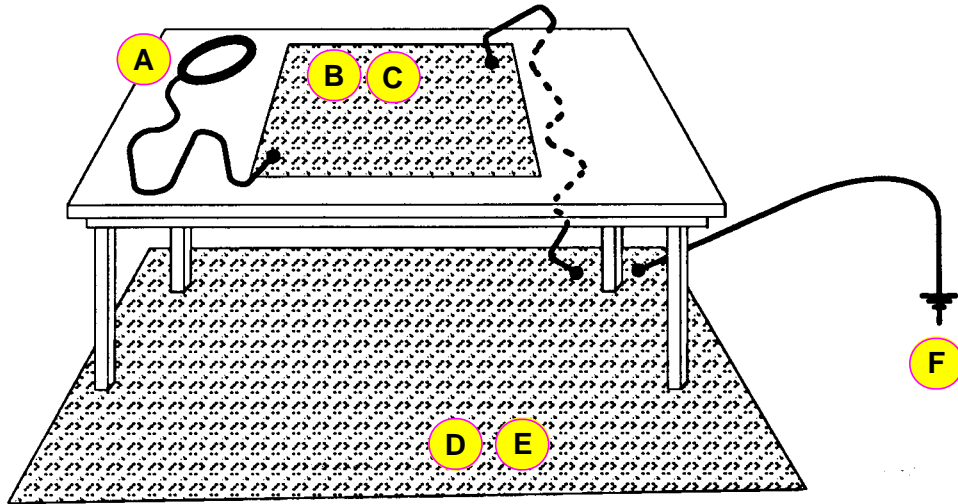
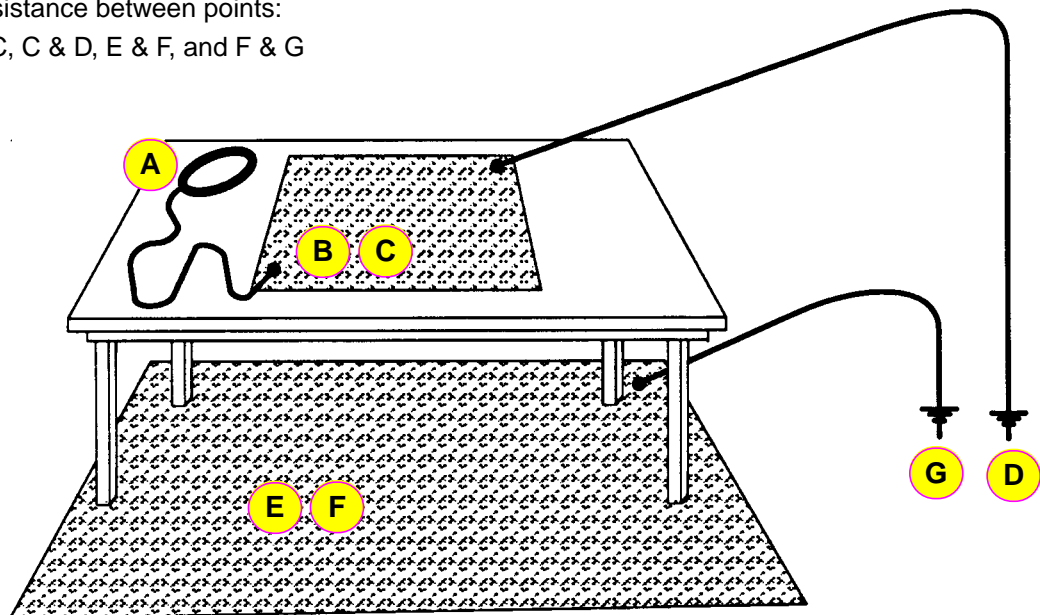

Figure 4 - Resistivity Measurement Points
Figure 5 - Resistivity Measurement Points for Alternate Work station Set-Up
- Use a resistivity meter to check the resistance between each of the points indicated in Figure 4 or Figure 5, as applicable. The measured resistance should be  $10^6 - 10^9$  ohms. If the measured resistance is less than  $10^6$  ohms, an alternate path to ground exists which must be traced down and corrected. If the measured resistance is greater than  $10^9$  ohms, the ground connection is interrupted and must be repaired. A resistance measurement greater than  $10^9$  ohms when checking the resistance between two points on either the table or floor mat indicates that the mat surface needs to be cleaned.